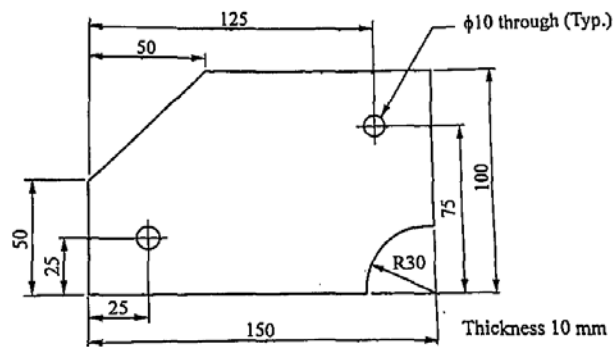

fig. 3a
- Q3) a)** Write a manual part program for the component shown in fig. 3a. Assume the raw product as cast iron and the machining is to achieve the various dimensions. [12]